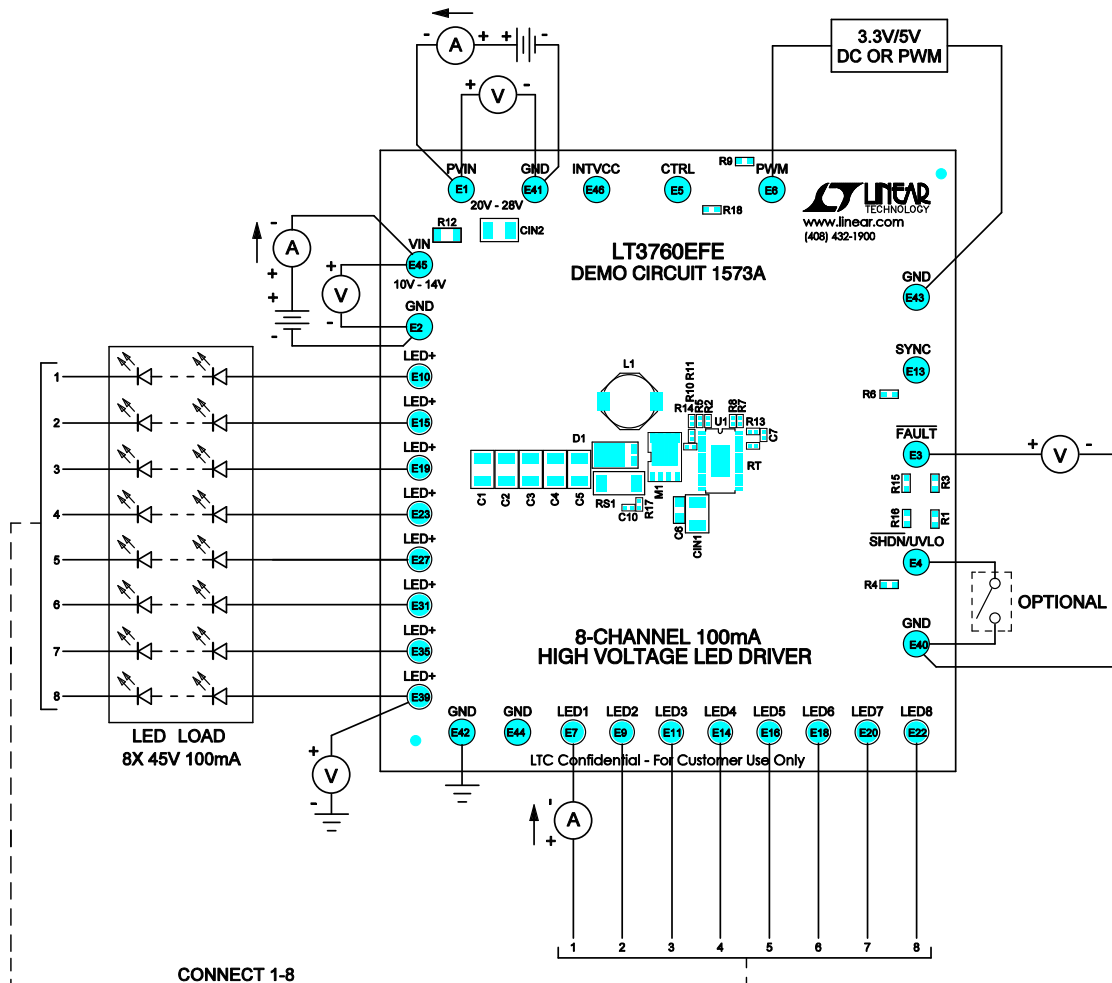

Figure 1. Proper Measurement Setup Drawing
1. Connect strings of LEDs with forward voltage less than 45V, but greater than the PV_{IN} voltage, to the LED+ and LED1-8 terminals on the PCB as shown in Figure 1. Tie any unused LED1-8 pins directly to V_{OUT} (LED+) before power-up to disable that channel.